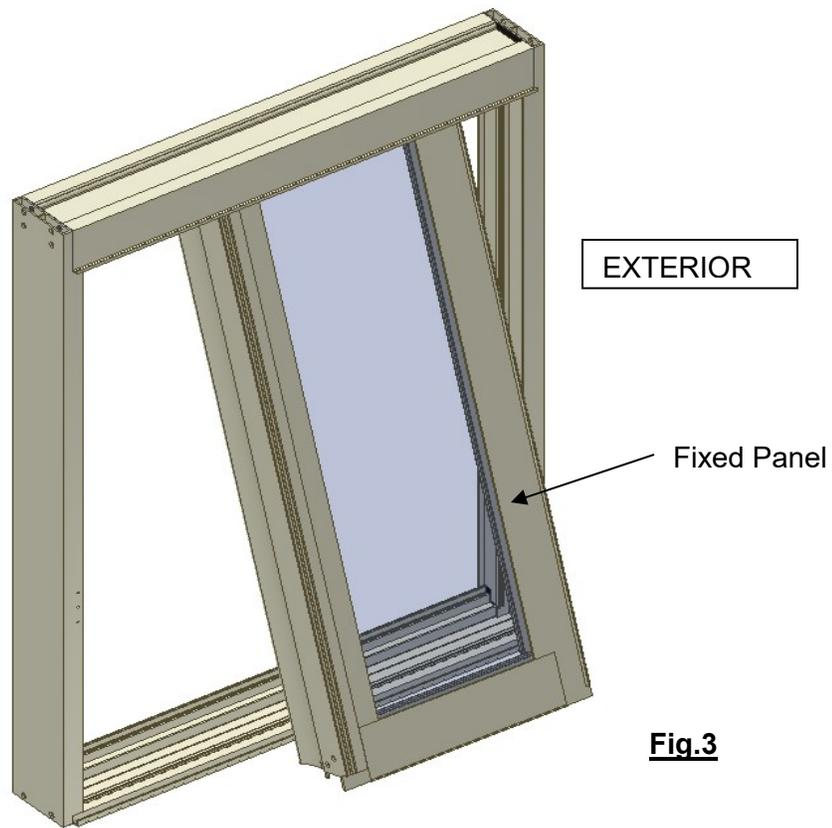

Fig.3
8. With the bottom of the fixed panel angled outward, tuck into the interior track of the door frame head. Lift and push the bottom end in and allow the panel to rest in the interior track of the door frame sill. (See Fig. 3 on Page 22 of 34)